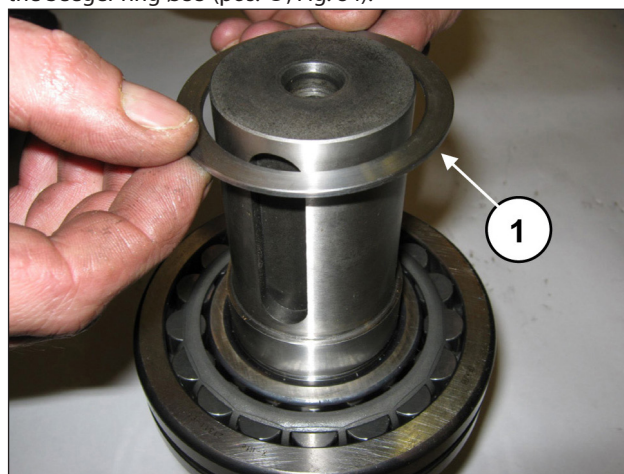
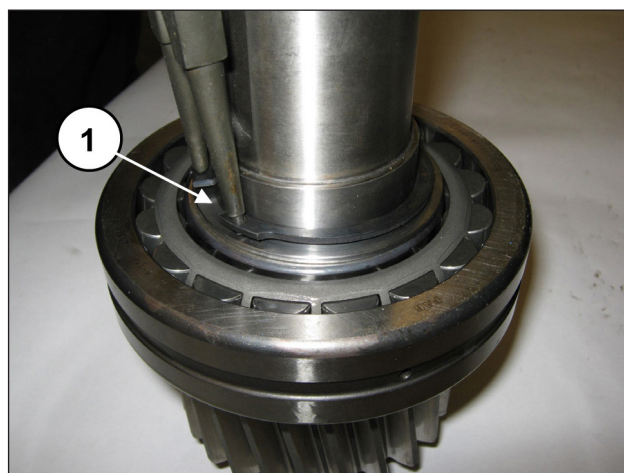

Fig. 83
Fig. 84
Insert the bearing support ring (pos. ①, Fig. 83) and position the Seeger ring Ø55 (pos. ①, Fig. 84).